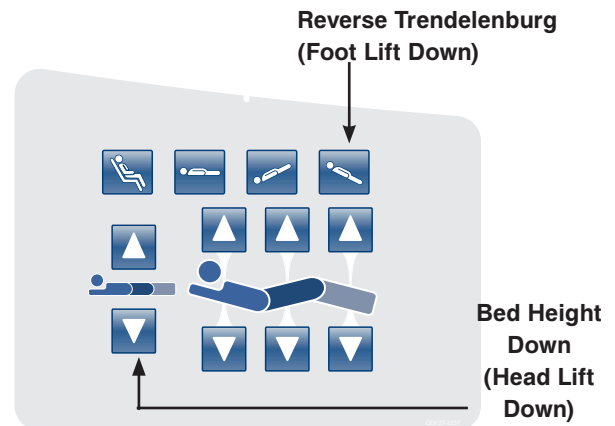

Figure 7: HE Siderail Control Panel - (Right Side Shown)
7. Lower the bed to the lowest position. Press the **Bed Height Down (Head Lift Down)** and **Reverse Trendelenburg (Foot Lift Down)** buttons simultaneously as shown in Figure 7.